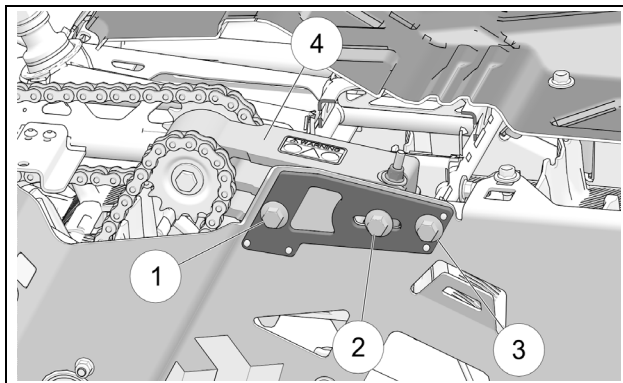

Figure 3
- Loosen assembly bolts (1), (2) and (3) on right side panel to allow the Chain Tensioner (4) to pivot on its axis. See Figure 3.